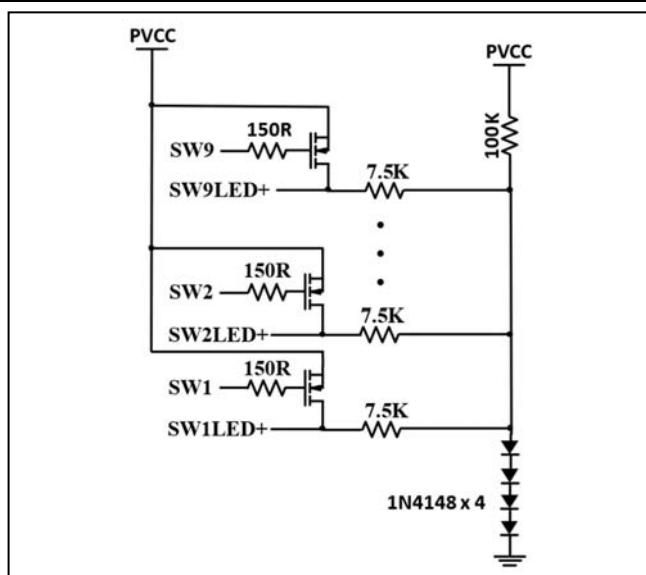

Figure 21 External Circuit to Remove De-ghost
**Note 10:** To solve the ghosting issue, precise fine-tuning of the CS (Common Source) node's pull voltage, alongside the integration of an external SW (switch) pull-down circuit, is of utmost importance. Selecting a 7.5kΩ resistor at the default operational frequency represents a judicious choice, effectively nullifying the occurrence of LED ghosting while preserving the LED's negative voltage within the desired range. It is noteworthy that the four 1N4148 Schottky barrier diodes exhibit a forward voltage drop of approximately 2.2V. To optimize performance, it is prudent to substitute these diodes with Zener Diode featuring voltage characteristics similar to those depicted in Figure 21.